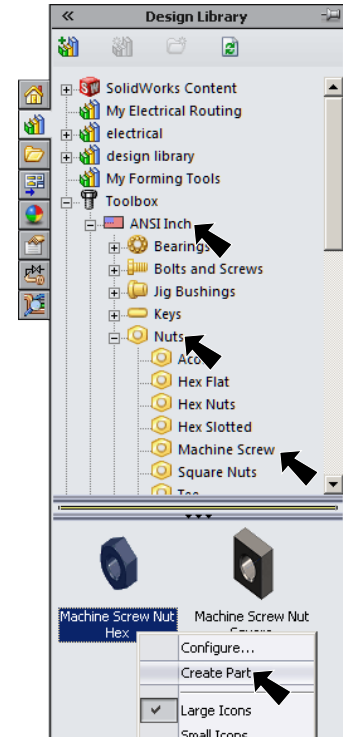

Fig. 1
Step 1. Click the **Design Library** tab  in the Task Pane, **Fig. 1**.
Step 3. In the lower pane, **right click Machine Screw Nut Hex** and click **Create Part**, **Fig. 1**.